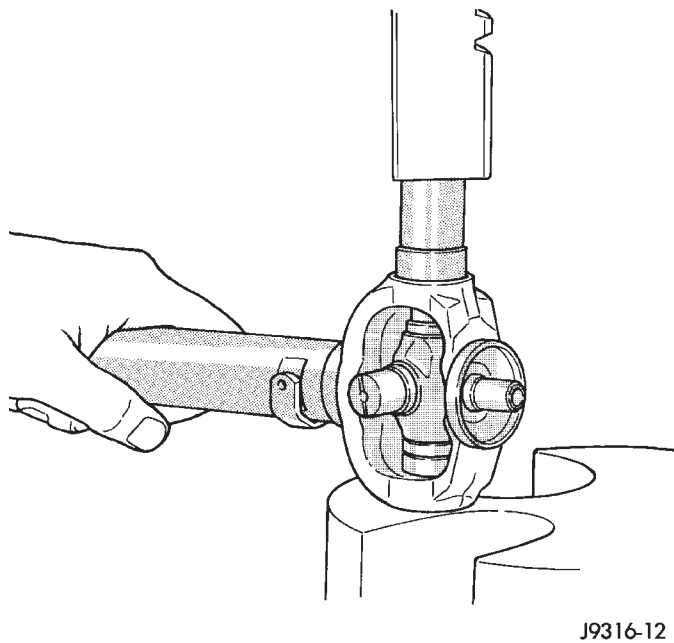

Fig. 30 Press In Bearing Cap
(6) Flip the propeller shaft yoke and install the bearing cap onto the opposite trunnion. Install a snap ring (Fig. 30).